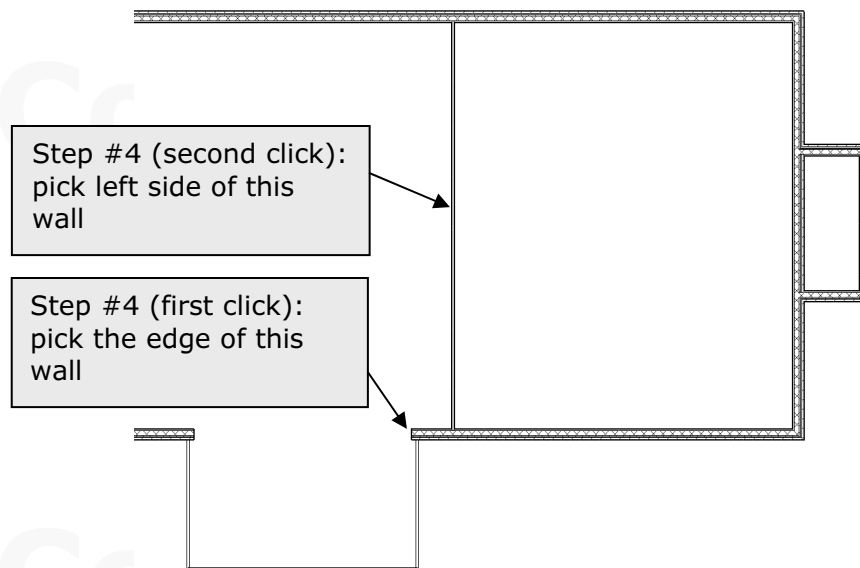
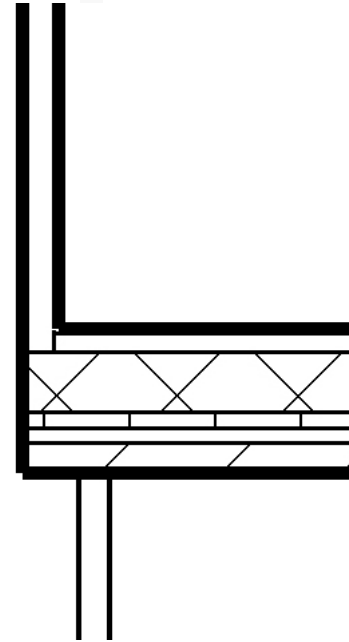

Figure 3-3.1 First interior wall
Figure 3-3.2 First interior wall
3. Draw a vertical wall approximately as shown in Figure 3-3.1. We will adjust its exact position in the step #4.
4. Select the interior wall you just drew and use the **Align** tool to align it with the edge of the exterior wall in the atrium (Figure 3-3.1). When you are done, the wall should look like Figure 3-3.2.